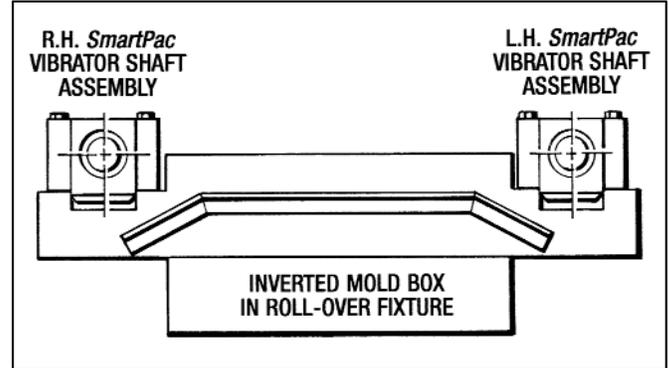

Figure 4.2 - Inverted Mold Box
2. Set the new SmartPac vibrator shafts into position on the mold bars. You may have to use the pry bar in each gap to nudge the bearing housings down until they seat themselves completely into the mold bar notches. See Figure 4.2.
NOTE - Don't forget that when the Mold Box is inverted the L.H. Shaft is on the right side and the R.H. Shaft is on the left side as shown in Figure 4.2.